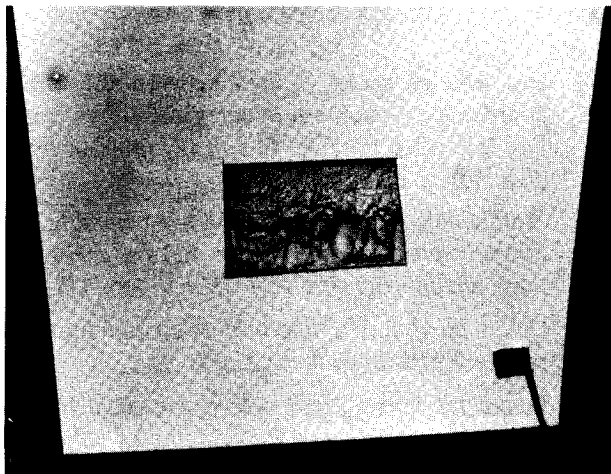

Figure 1
2. Approximately 12" up from the floor of the refrigerator compartment cut a small hole (approximately 6" x 6") in the upsom board in the back of the module. (See Figure 1)